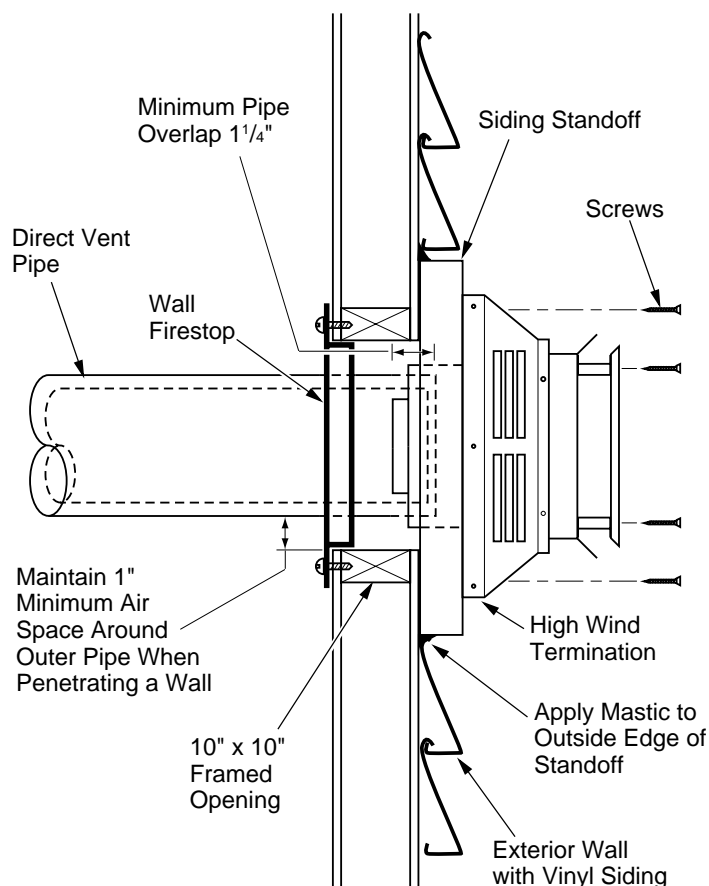

Figure 13 - Typical Horizontal Termination Cap Mounting with Additional Siding Standoff Installed
9. Slide wall firestop against interior wall surface and attach with screws provided. See Figure 13, page 10 for horizontal termination details.